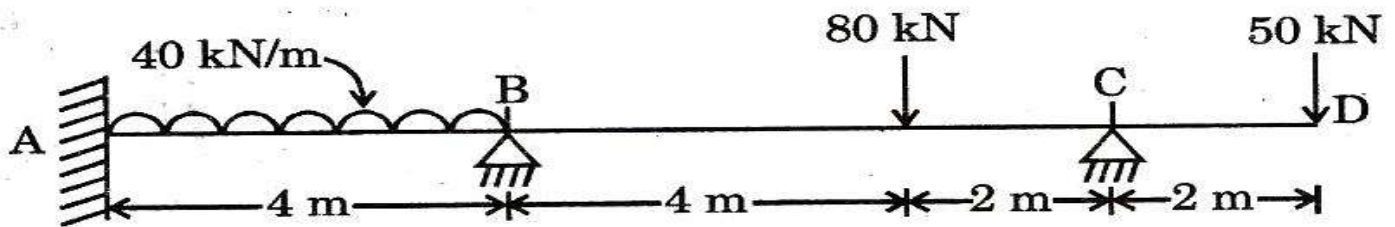

Fig. 1
1. (a) Analyse the continuous beam shown in Fig. 1 by the slope deflection method. Draw SFD and BMD. 10